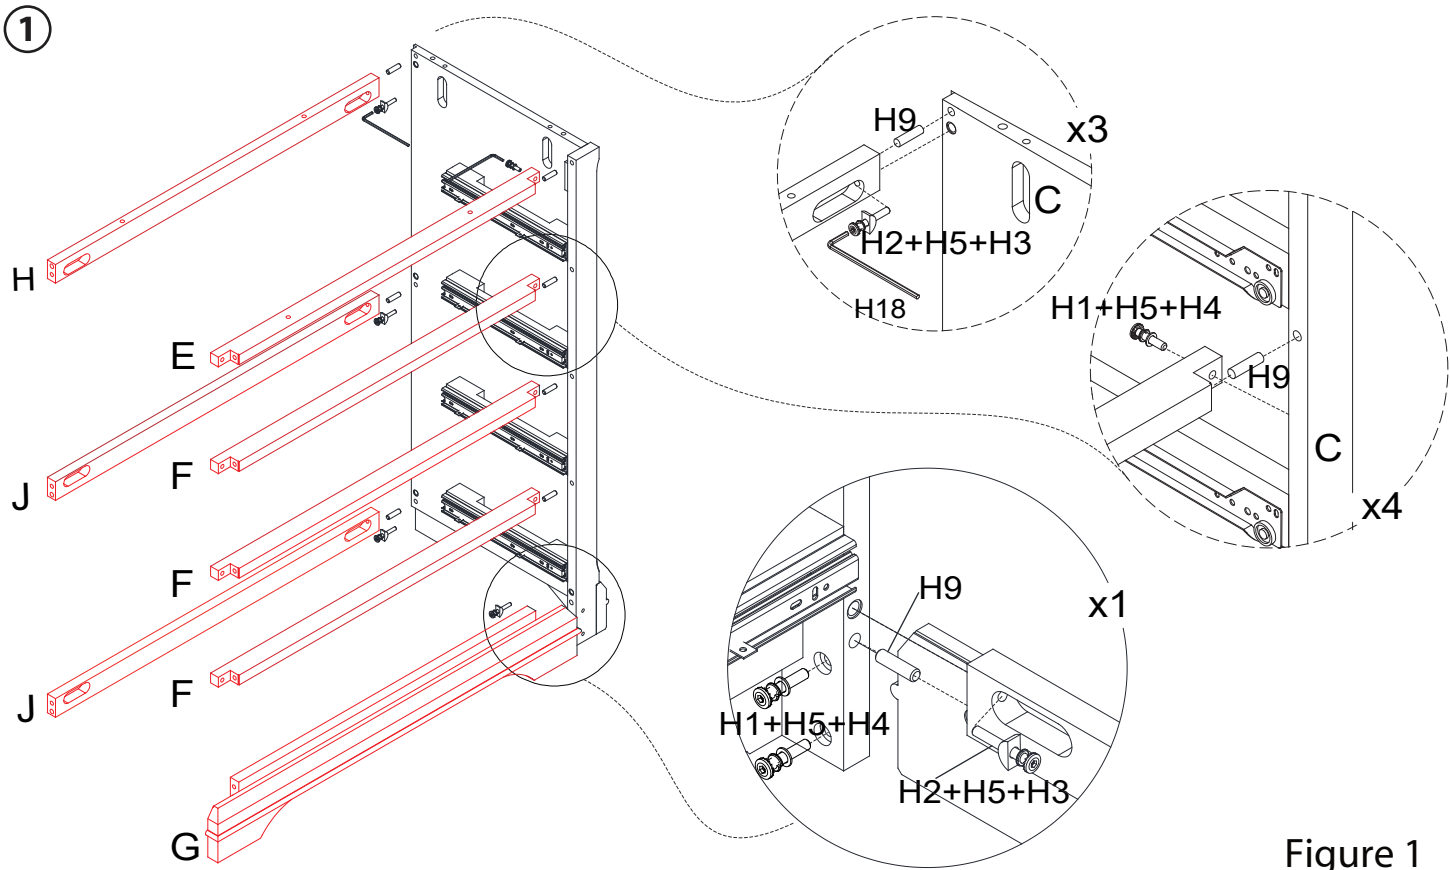

Figure 1
1. Working on a padded flat surface, attach Drawer Sides (R2&R3) to Drawer Back (R4) as Figure 1